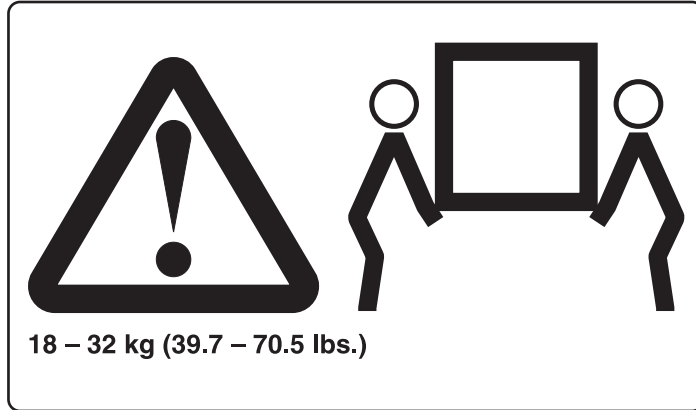

Figure 12. Two-man lift label on battery unit
1. Two-man lift label. See Figure 12 on page xxxii.